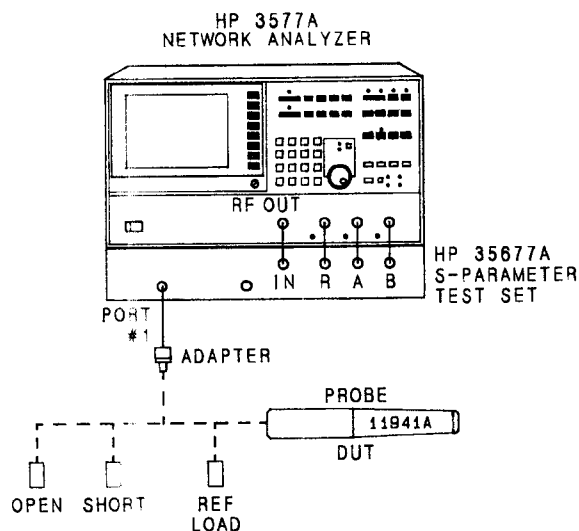

Figure 9. Output Impedance Test Setup
1. Connect the equipment as shown in figure 9. Allow the HP 3577A 60 minutes of warm-up time.